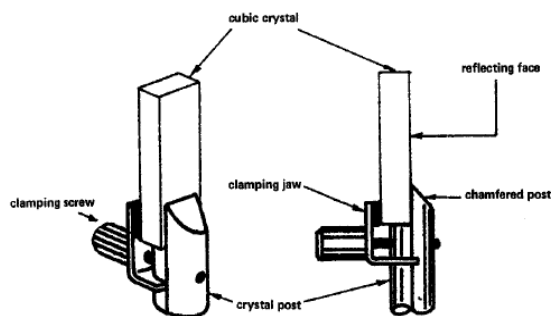

Figure 4: Mounting of cubic crystals.
3. Mount the LiF crystal in the crystal post ensuring that the major face having a "flat matt" appearance is in the reflecting position (see Figure 4) – be careful not to touch these faces.